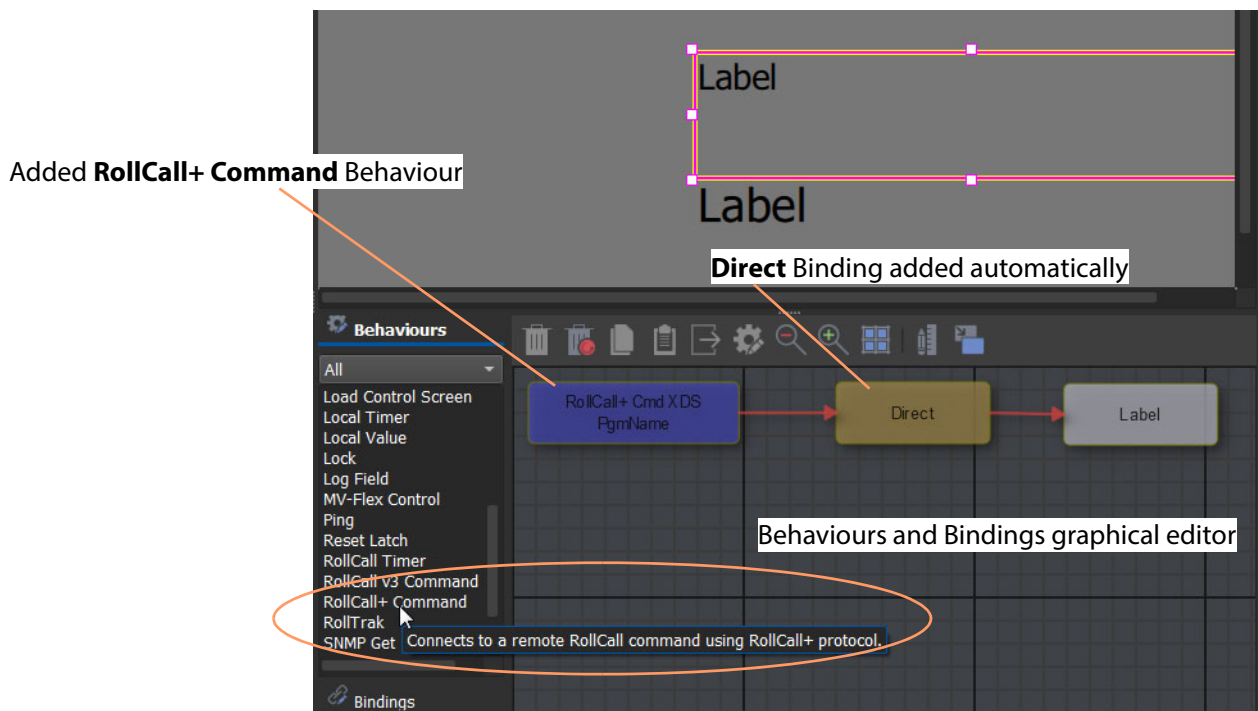

Fig. 6-2: Add a RollCall+ Command Behaviour
- 5 Add a **RollCall+ Command** Behaviour to the editor. See Figure 6-2.